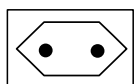

Fig. 1
- 2► Use a common outlet to plug it in (two pins, Figs. 1 and 1A).